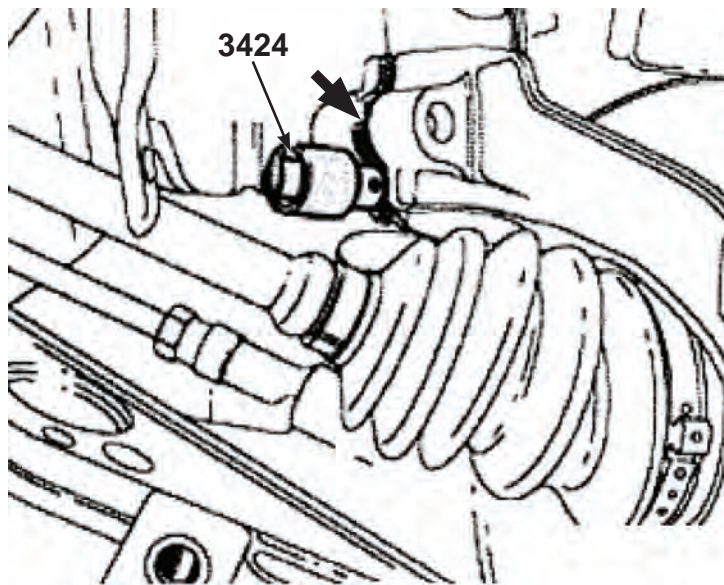

fig. 3
6. Spread the hub assembly slot and push down on the hub to release the strut from its lower mount. (fig. 3 - Volkswagen specific tool is spreader 3424)